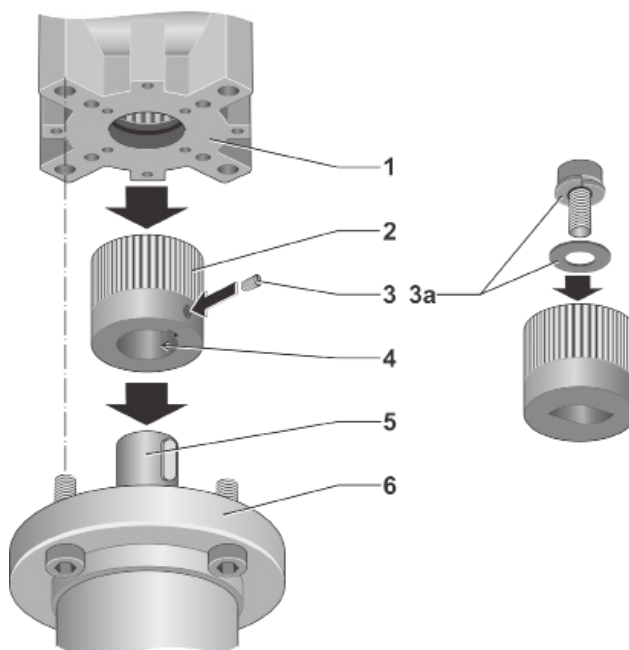

Fig. 2: Assembly with coupling
Prior to mounting the part-turn actuator to the valve, unbored couplings must be machined (fig. 2, item 4) to match the valve shaft (item 5).
1. Slightly grease valve shaft (fig. 2, item 5) and splines of the coupling (item 2).
3. Place part-turn actuator (fig. 2, item 1) onto valve (item 6):